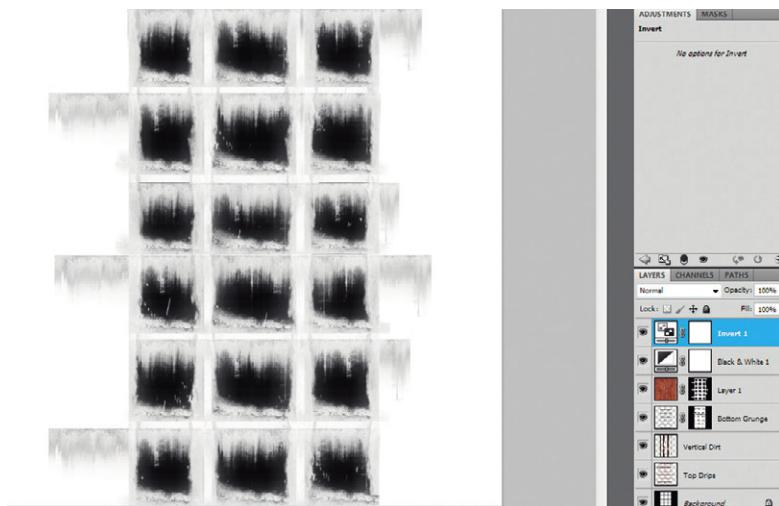

FIG. 6.28 Results of two adjustment layers.
Step 51: Use Adjustment Layers to create an inverted black and white version of the color map. Do this within Photoshop by going to Layer > New Adjustment Layer > Black & White. Move this layer to the top of your layers in the Layers Palette. Then, go to Layer > New Adjustment Layer > Invert. Again, make sure this is the top of the layers. The results will be a creepy but effective Fig. 6.28. Save the file (the raw version) and then use File > Save for Web & Devices and save out a new ETM_WindowsPaneTransparency.jpg to the sourceimages folder.